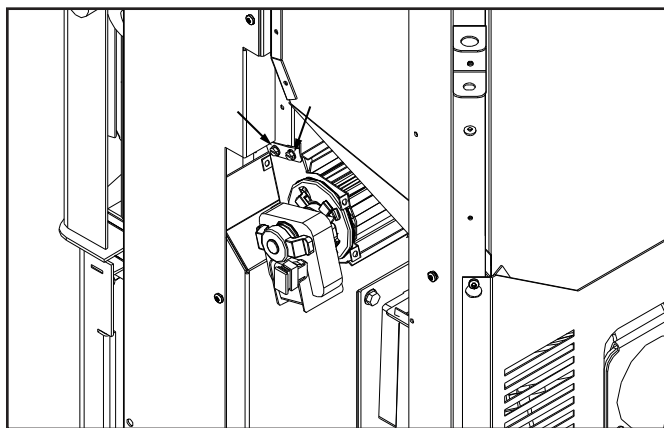

Figure 34: Behind the right cab panels.
3. Slide the fan into place between the bracket (see Figure 34 & 35).
4. Using a flat head screwdriver or a 1/4" socket fasten the fan in place with two (2) screws on each side.